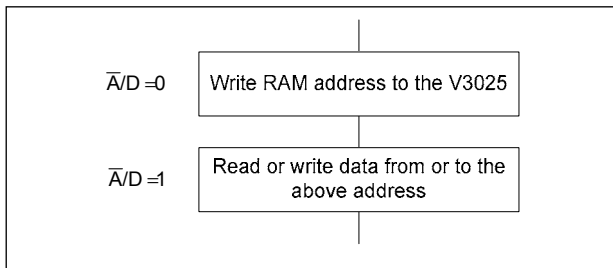

Fig. 11
Data transfer is in 8 bit parallel form. All time data is in packed BCD format with tens data on lines AD7-4 and units on lines AD3-0. To access information within the RAM (see Fig.10) first write the RAM address, then read or write from or to this location. Fig.11 shows the two steps needed.
The communication sequence shown in Fig.11 is re-entrant. When the address is written to the V3025 (ie. first step of the communication sequence) it is stored in an internal address latch. Software can read the internal address latch at any time by holding the  $\bar{A}/D$  line low during a read from the V3025. So, for example, an interrupt routine can read the address latch and push it on to a stack, popping it when finished to restore the V3025. N.B. Alarm and timer interrupt routines can reprogram the alarm and timer without it being necessary to read or reprogram the clock.
**Note:** Commands are only valid as commands when the  $\bar{A}/D$  line is low. Writing F2 hex with the  $\bar{A}/D$  line high, as in the last box of Fig. 11, serves only to activate the V3025 write pin which determines the direction of transfer.